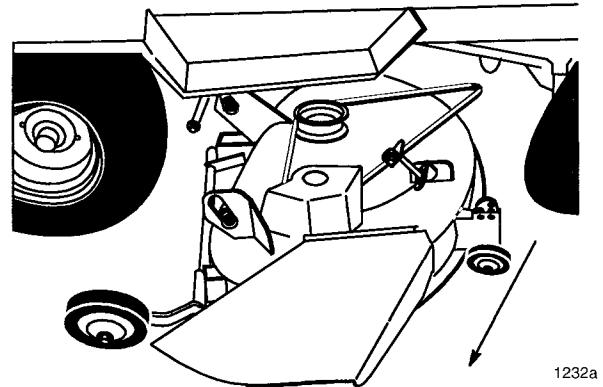

Figure 13
8. Turn the front wheels fully to the left and raise attachment lift lever all the way to the latched position; refer to tractor Operator's Manual. Slide the mower out from under the chassis to the the right side (Fig. 13)